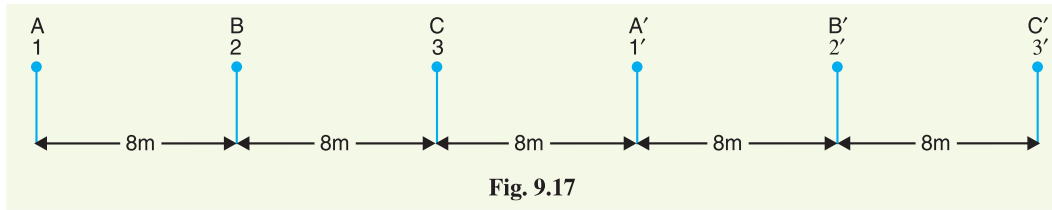

Fig. 9.17
**Example 9.9.** Calculate the inductance per phase per metre for a three-phase double-circuit line whose phase conductors have a radius of 5.3 cm with the horizontal conductor arrangement as shown in Fig. 9.17.